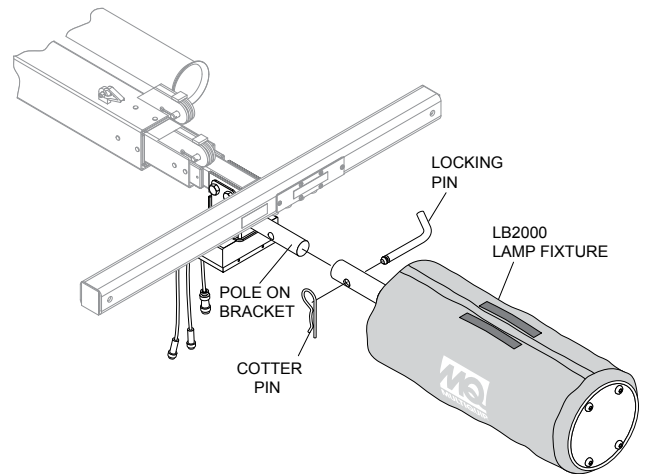

Figure 9. Installing LB2000 Lamp Fixture
4. Connect the LB2000 lamp fixture to the bracket. Lock the lamp fixture in place with the cotter pin. See Figure 9.